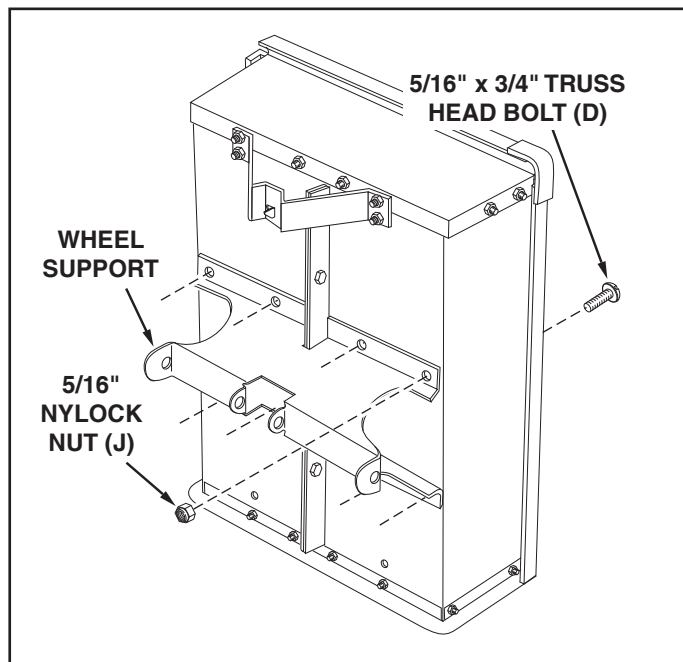

FIGURE 6
- Assemble the wheel support to the cart using eight 5/16" x 3/4" truss head bolts (D) and 5/16" nylock nuts (J) as shown in figure 6. Heads of bolts go on the inside of the cart. **Tighten**.